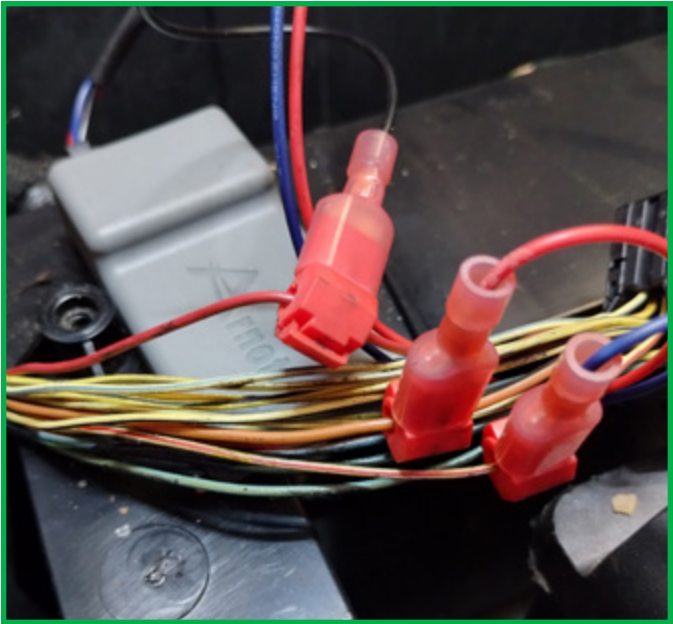

FIGURE 55
3. Install the three (3) connector splice to male spade terminals onto the wire harness using the diagram provided. (Figures 55, 56)